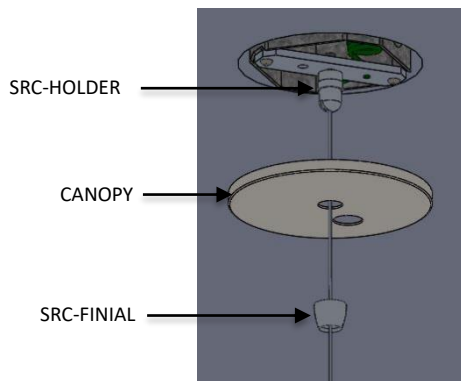

FIG. 21 – CANOPY DIS-ASSEMBLY
21. Once the SOLO BODY is secured to the AIRCRAFT CABLE (5) at the GRIPLOCK (5) Unthread the FINIAL from the MOUNTING BRACKET ASSEMBLY and lower the CANOPY as shown below in FIG. 21.